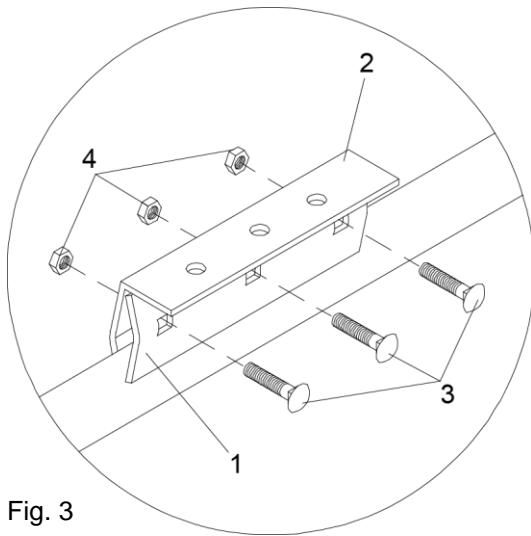

Fig. 3
2. Fix the clamp at the fold of the roof by fixing the left (1) and the right (2) part of the clamp with the 3 screws M10 (3) and the corresponding nuts M10 (4) (Fig. 3).